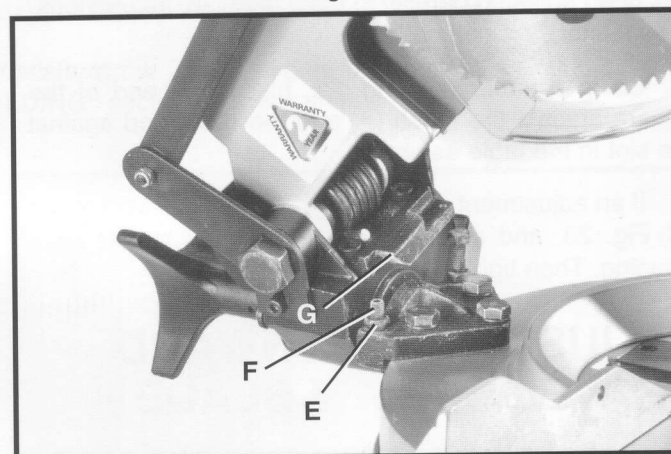

Fig. 28
7. If an adjustment is necessary, loosen locknut (E) Fig. 28, and turn screw (F) until screw (F) contacts casting (G) when blade is 45 degrees to the table. Then tighten locknut (E).